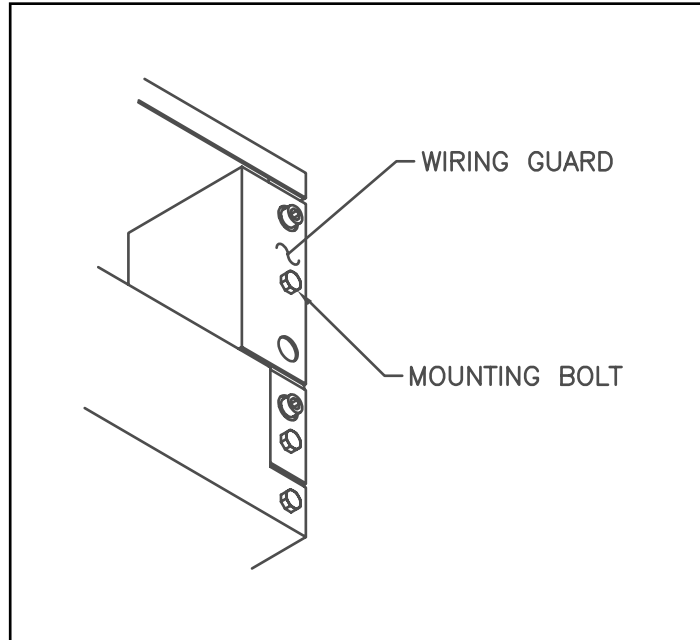

FIGURE 7 - Wiring Guard
- E. A wiring guard, **See Figure 7**, is mounted on the right of the air intake of the unit. The wiring guard is reversible, so it may be mounted on either side of the unit. Remove the ¼" mounting bolt. Clearance holes enable the wiring guard to be removed without disturbing the ¼" shoulder bolts.
- H. Reinstall the wiring guard so that it covers all of the wires used to make the connections to the terminal strip. Reinstall the ¼" mounting bolt. **See Figure 7.**